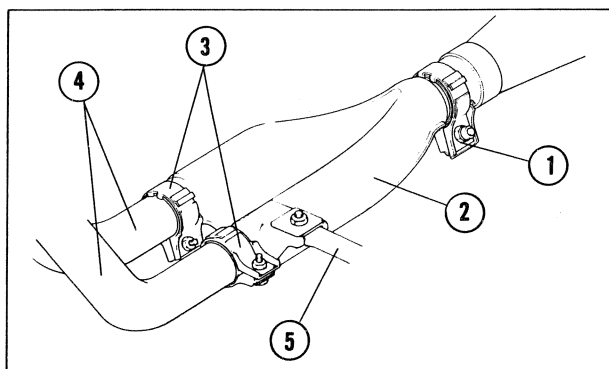

Fig. 40 (1) Muffler clamp (4) Exhaust pipe
- Tighten the muffler clamps in the location as per the instructions given in Fig. 40.